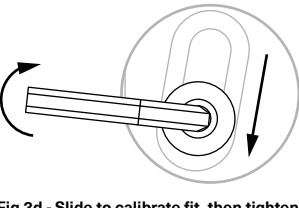

Fig 3d - Slide to calibrate fit, then tighten
- 3.5 Use the hex key to gently slide one of the button head screws downwards so the Miter Bar expands to completely fill the miter slot. Then, tighten each button head screw [Fig 3d].